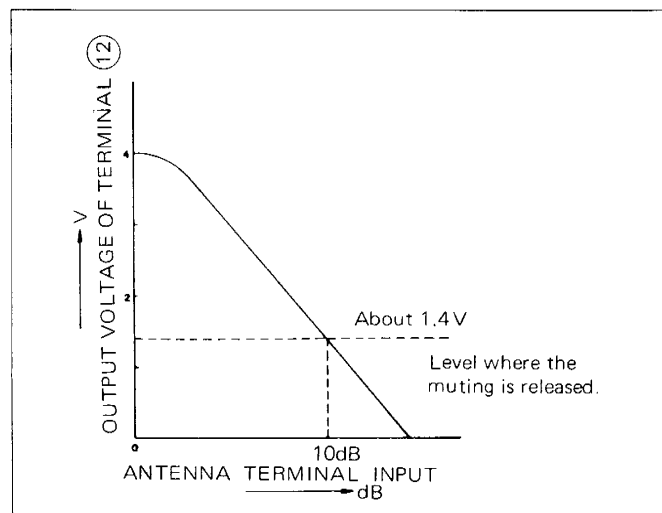

Figure 13
In these sets SA-5202 and SA-5206, IC101 incorporates a muting circuit and this circuit is so designed that if FM input signal caught by the antenna becomes about 10dB when the muting switch (SW101) has been set "on" position, the muting effect is released and thus the signal can appear at the output without undergoing muting. The muting release signal first develops at the terminal ⑫ of IC101, then to be applied through the muting switch (SW101) to the terminal ⑤ of IC101, so that the muting effect is able to become nil. Figure 13 shows the output voltage of the terminal ⑫ of IC101. This signal (to release the muting) is then supplied to the terminal ⑪ of P.L.L. stereo multiplex demodulator integrated circuit IC103 to make stereo signal be forced to monaural signal.